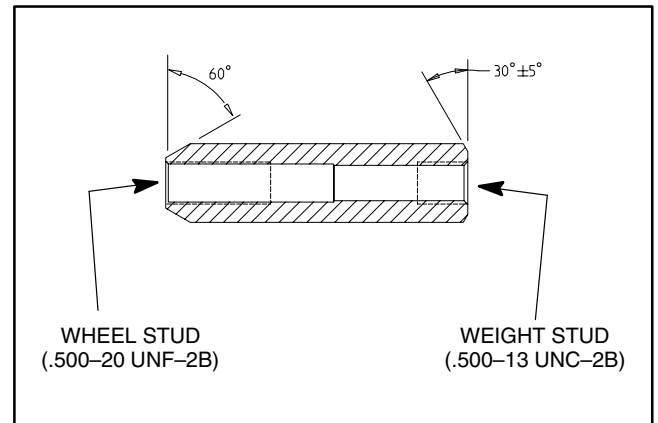

Figure 3
B. Secure wheel to machine with four (4) lug nuts. Torque lug nuts from 45 to 55 ft-lb (61 to 75 N-m).
A. If weight studs were removed from wheel weight adapters, thread studs fully into the correct end of the adapter (Fig. 3).
C. Secure wheel to machine with two (2) lug nuts and two (2) wheel weight adapters. Torque wheel fasteners from 45 to 55 ft-lb (61 to 75 N-m).
E. Secure wheel weight with two (2) thrust washers and lock nuts.
### Removal (Fig. 3)